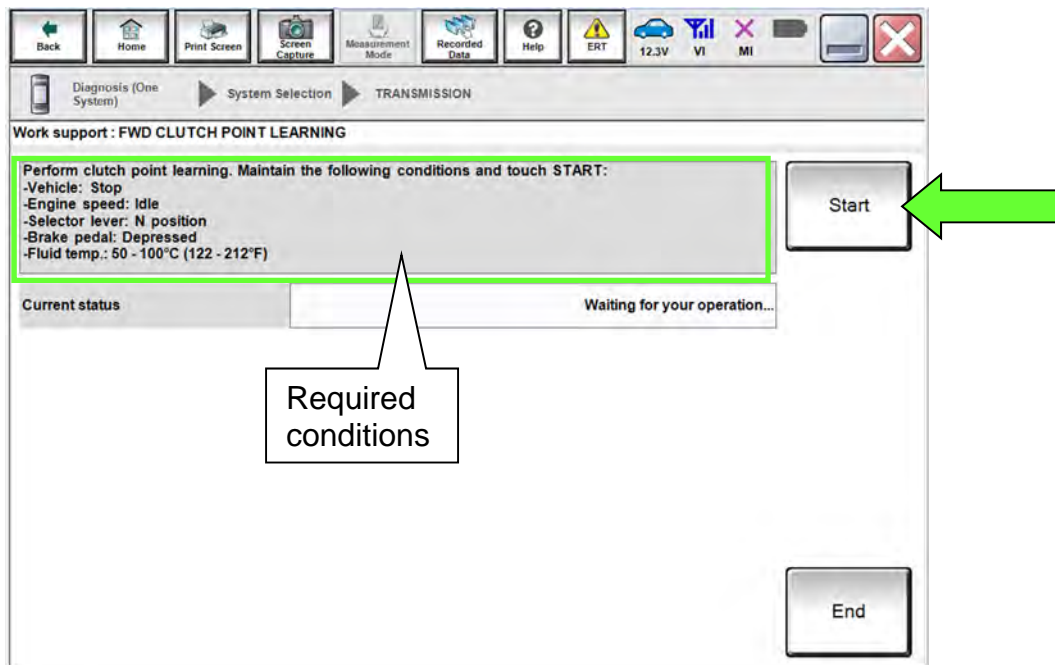

Figure 206
- Confirm that all of the conditions indicated in Figure 206 are being met.
196. While maintaining all conditions shown in Figure 206 and the Current status indicates “EXECUTING”, shift the CVT into **R** and then wait until the Current status indicates **COMPLETED**.